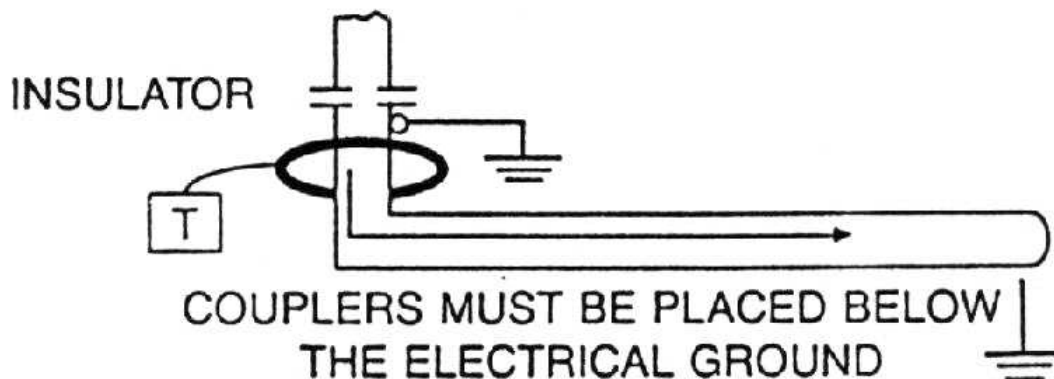

Figure 9, Inductive Coupling with the Metroclamp.
- Place the Metroclamp around the conductor below the electrical ground as seen in Figure 9. Make sure that clamp jaws are fully closed.